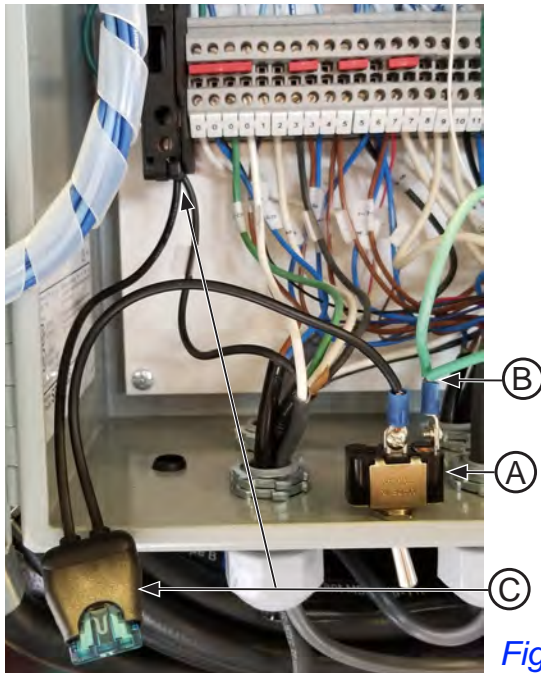

Fig. 2
5. Install toggle switch **(A)** with side prong towards right side of control panel. See Fig. 2.